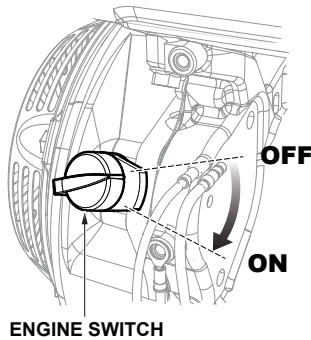

Figure 14. Engine On/Off Switch (ON)
5. Place the engine ON/OFF switch (Figure 14) in the **ON** position.